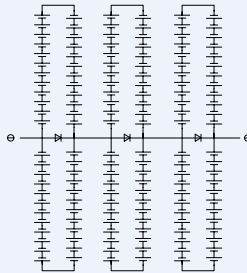

Figure 7-1: Electrical circuitry of cells and bypass diodes
- Bypass diodes divert current from the cell strings in the event of partial shading. See Fig. 7-1 for a diagram showing how the cell strings are electrically connected with the diodes.